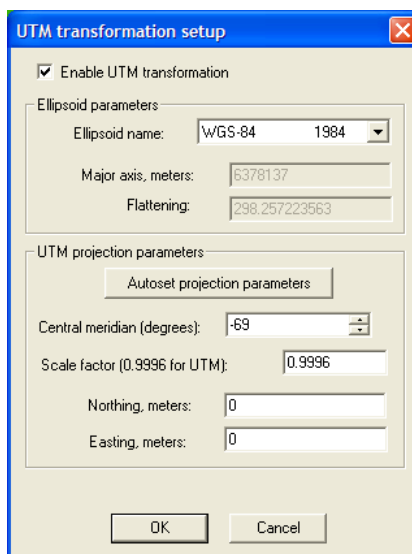

Figure 100: UTM Setup dialog box.
2. To convert to UTM coordinates, select the **Enable UTM transformation** box (Figure 100).